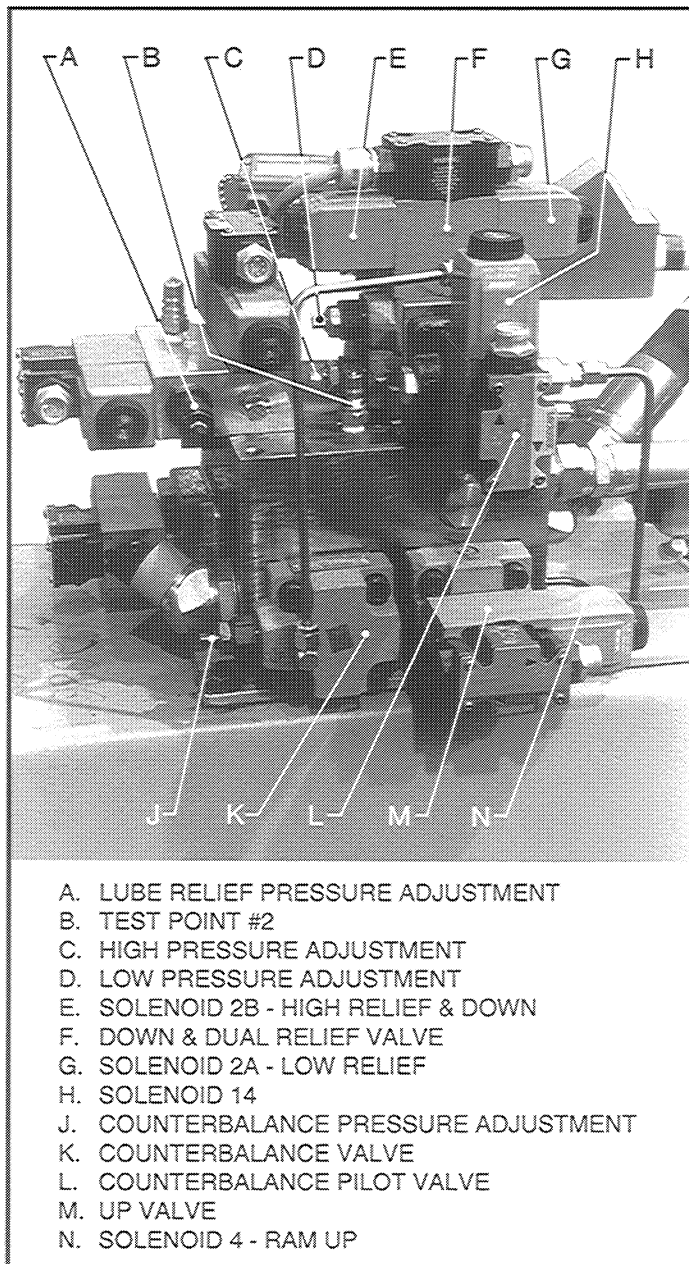
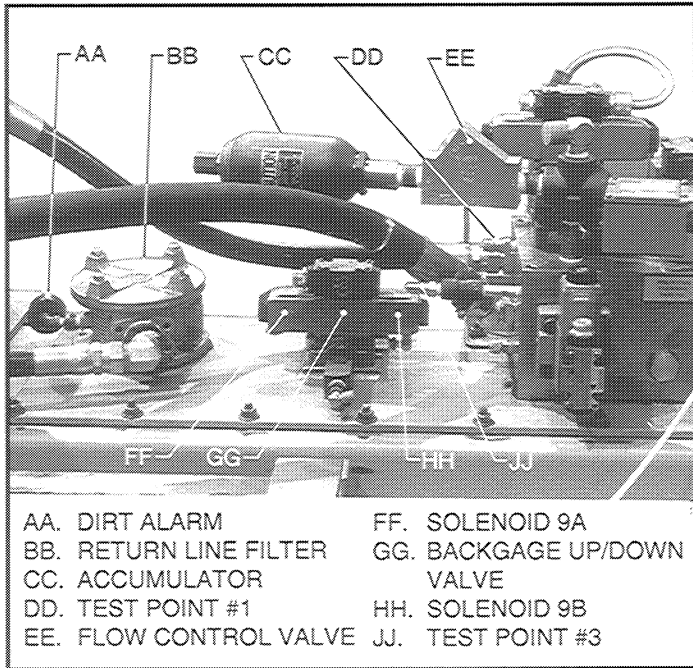

FIGURE 9-44 - Down and dual relief, counterbalance, and up valves
FIGURE 9-46 - Backgate up/down and flow control valves
The return line filter ("BB" on Figure 9-46) contains a 10 micron element and is suspended into the tank. It is equipped with a color coded dirt alarm ("AA" on Figure 9-46). When the pointer is in the green area, full flow filtration is obtained. When the pointer is in the yellow area full flow filtration is still being obtained, but the element should be serviced. When the pointer is in the red area the filter is in bypass condition and element must be replaced.
The hydraulic control valves, except for the rake, lubrication and backage lift, are cartridge or logic element type and are mounted on the main manifold. Refer to Figure 9-44 through 9-46.
The dual relief valve ("F" on Figure 9-44) has two pressure adjustments. The lower adjustment on the side of the valve is for the HI pressure and the upper adjustment is for the LOW pressure. A pressure test point T.P. 1 ("DD" on Figure 9-46) with a male quick-disconnect fitting is provided for checking these pressures.
To check the HI or LOW relief pressure, install a 5000 PSI (34,475 kPa) gage with female quick-disconnect fitting at T.P. 1. Turn the MODE selector to "SINGLE STROKE" and the OPERATOR CONTROLS selector to "ON". Cycle the ram two or three times and stop at the top of the stroke. Turn the OPERATOR CONTROLS selector to "OFF" and remove the key. Manually override SOL-4 ("N" on Figure 9-44) by depressing the pin in the end of solenoid. Ram should drift to bottom. If not, refer to "RAM GIB ADJUSTMENT" on Page 9-16. Adjust until ram does drift to bottom.
Manually override SOL-2B ("E" on Figure 9-44) by depressing the pin in the end of the solenoid cover and read the pressure, then release the solenoid pin. The pressure should be as indicated in Figure 9-52. If the pressure is not correct, reset by loosening locknut on the lower adjustment and turn adjustment clockwise to increase the pressure or counterclockwise to decrease pressure. Tighten the locknut and recheck the pressure setting.
Manually override SOL-2A ("G" on Figure 9-44) by depressing the pin in the end of the solenoid cover and read the pressure, then release the solenoid pin. The pressure should be as indicated in Figure 9-52. If the pressure is not correct, reset by loosening locknut on the upper adjustment and turn adjustment clockwise to increase the pressure or counterclockwise to decrease the pressure. Tighten locknut and recheck the pressure setting.
A pressure test point T.P.2 ("B" on Figure 9-44) with a male quick-disconnect fitting is provided for checking counterbalance pressure. The adjustment for this pressure is the adjusting screw on the counterbalance valve ("J" on Figure 9-44).
1. Install a 2000 PSI (13,790kPa) gage with female quick-disconnect fitting at T.P.2 (Figure 9-44).
1. Install a 2000 PSI (13,790 kPa) gage with female quick-disconnect fitting at T.P. 3 (Figure 9-46).
4. If holddown pressure is too low, check the low relief pressure on dual relief valve ("F" on Figure 9-44) before setting holddown pressure.
The accumulator ("CC" on Figure 9-46) is in the holddown circuit. Its purpose is to maintain holddown pressure during the cutting stroke by replacing any oil that may leak past the valves. The accumulator has a precharge as indicated in Figure 9-52. The pressure should be checked yearly.